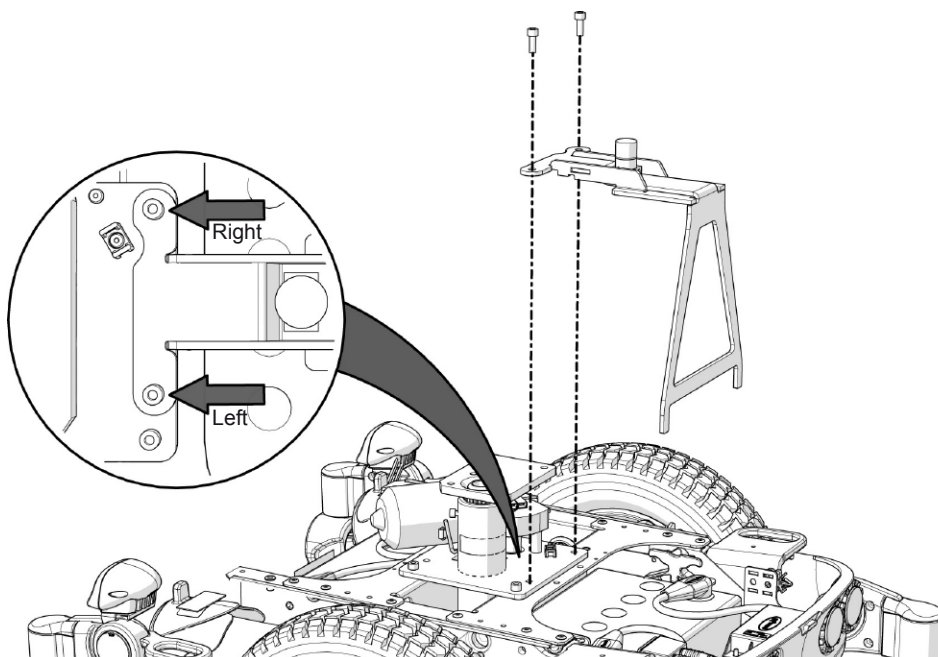

Fig. 2. The Seat Support is fitted with two screws.
4. Remove the rear right screw of the seat lift. See fig. 2.
6. Position the seat support in the chassis and mount it with the two screws (see fig. 2).